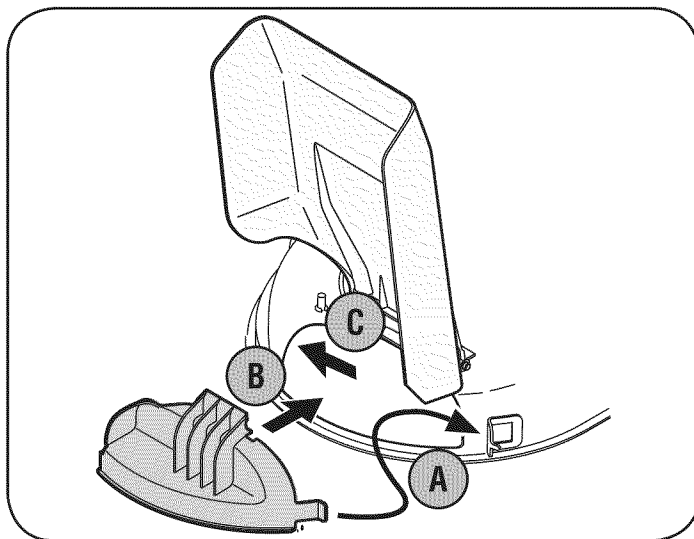

Figure 11
1. Insert the right-side tab (A) of the baffle into the bracket on the deck. See Figure 11.
2. Insert the mulch baffle into the discharge opening (B). See Figure 11.
3. Once it's positioned in the deck opening, push the baffle towards the rear of the mower (C) to secure it in place. See Figure 11.